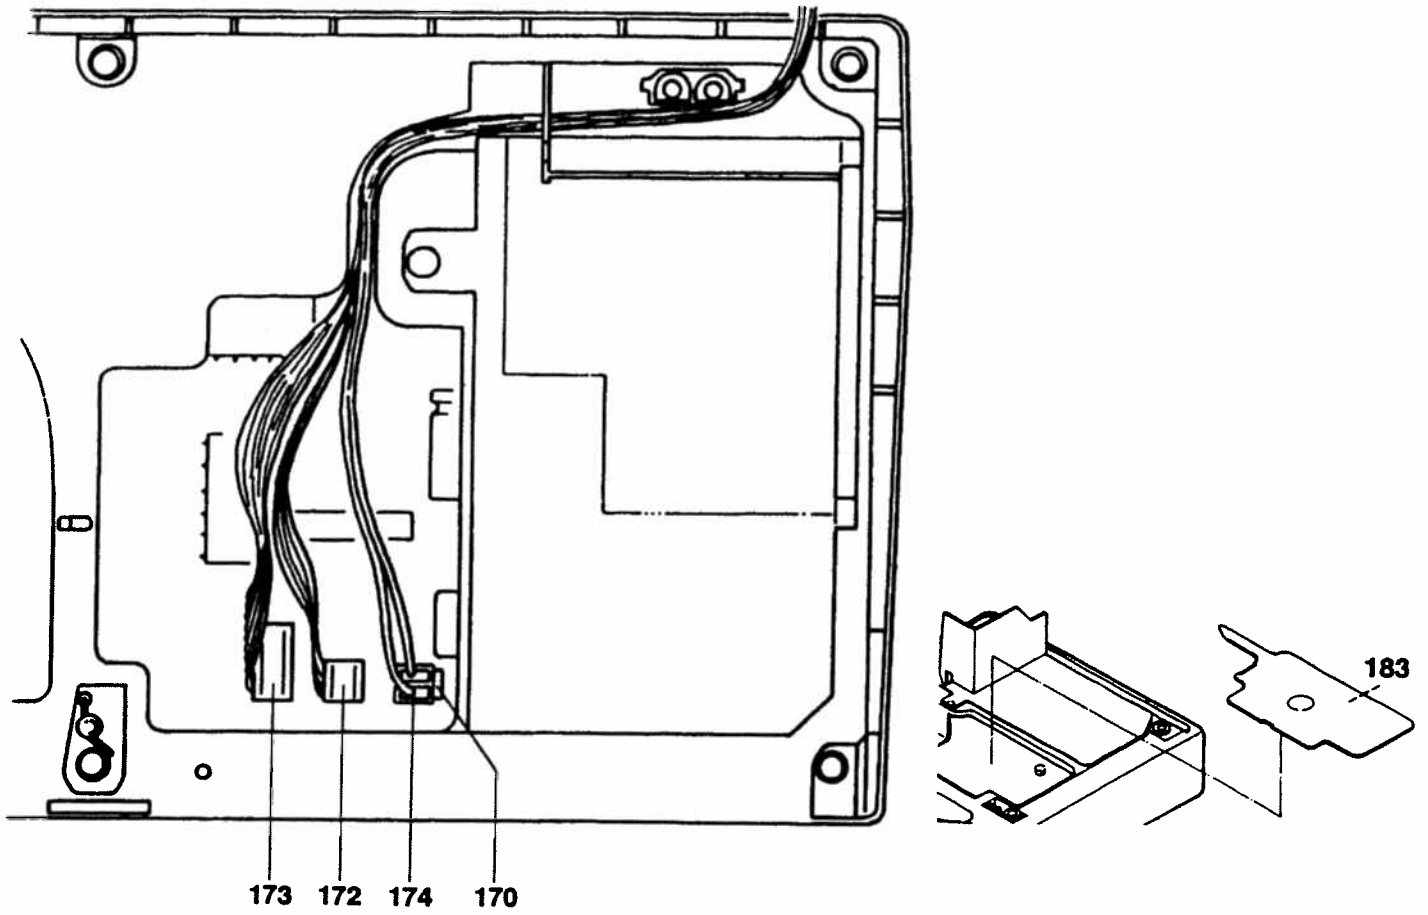

Fig. 51
- Remove baseplate cover 183 (fig. 51).
- Fit the baseplate cover 183 (fig. 51).